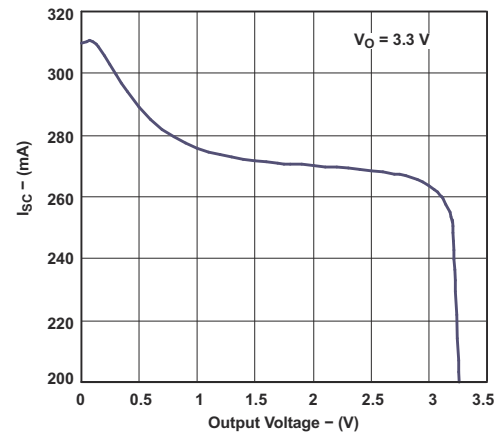

图 6-6. Short-Circuit Current vs Output Voltage
- (1) Dropout voltage is defined as the input-to-output differential at which the output voltage drops 100 mV below the value measured with a 1-V differential.
- (2) The ON/OFF input must be driven properly for reliable operation (see the Application and Implementation section).
- (3) See Figure 6-6 in the Typical Characteristics section.